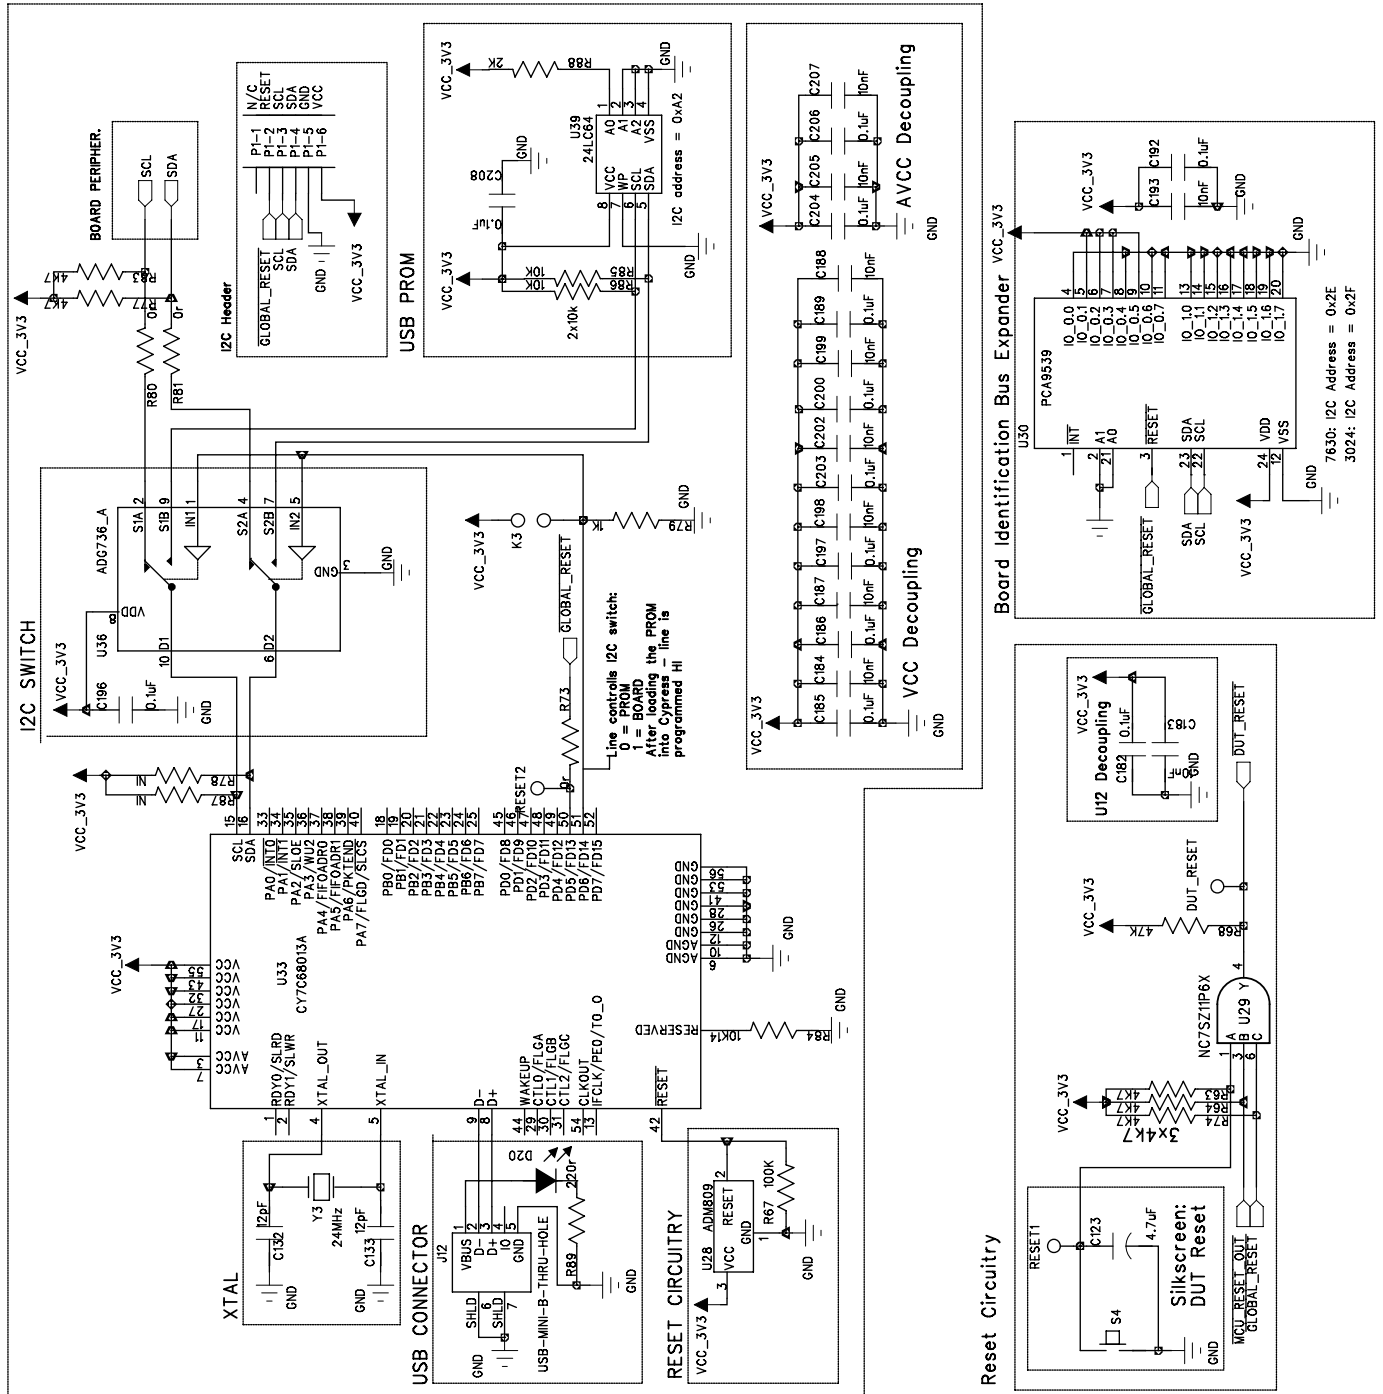

Figure 11. USB Circuitry schematics
2. Figure 11. Choose board button